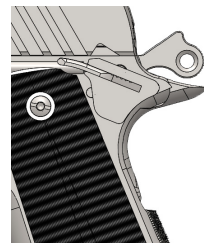

Figure 5
- By fully gripping the pistol, the manual grip safety is depressed, allowing the trigger to move when pressed – Figure 5. Be sure that the palm of your hand fully depresses the grip safety.